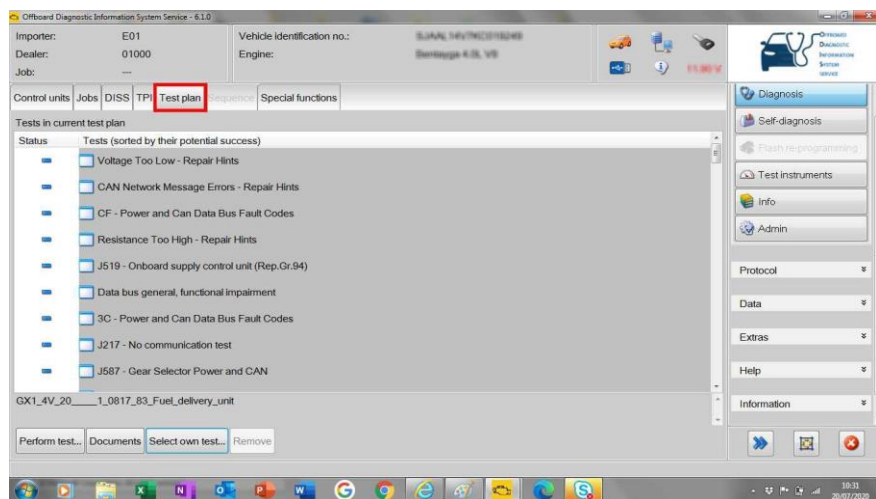

Figure 1
- Follow the on screen prompts and then select *Test plan* – Figure 1.